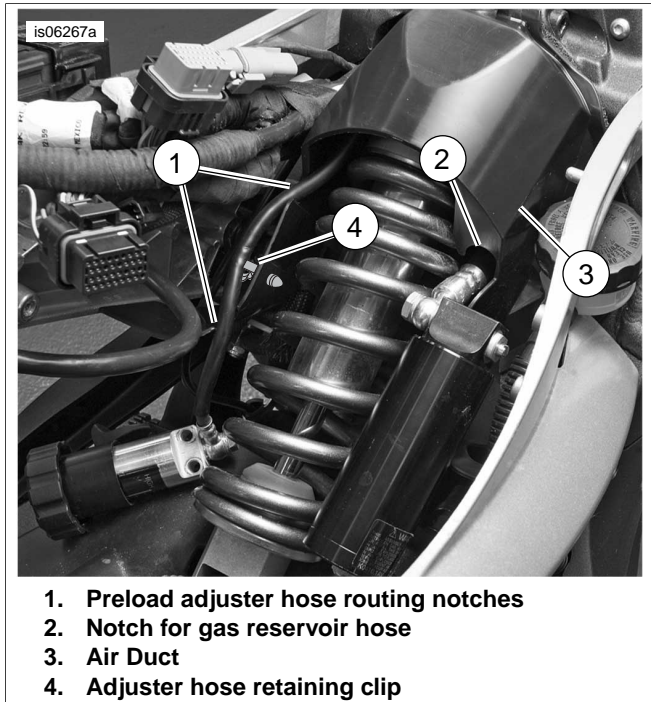

Figure 3. Air Duct Installed
3. See Figure 3. Install the air duct (3) over the top front of the shock absorber. The shock gas reservoir hose is in the slot on the right side and the preload adjuster hose routes to the outside of the duct through two notches on the left side.